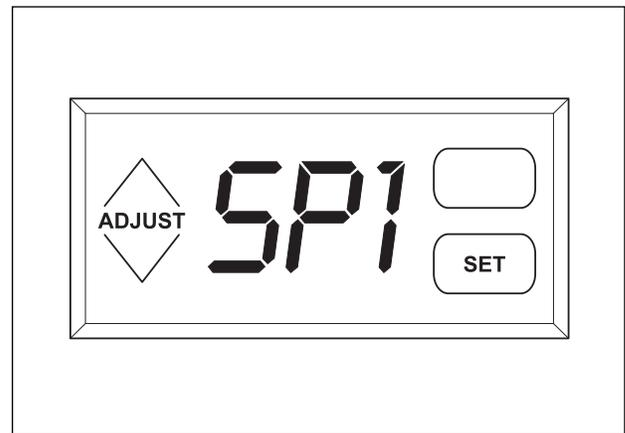

Figure 7. Controller
6. To set the controller to the desired temperature press “Set” button once; unit will display “SP1.” See Figure 7.